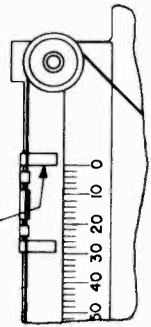

Fig. 6. Pointer-guide Clip Setting with Gang Condenser Closed
R.F. alignment can be performed only on the "BC" and "SW-1" bands with the chassis outside the cabinet. Any alignment attempted on "SW-2" band will not be satisfactory. The chassis should be mounted on the chassis and cylindrical Beam-a-Scope should be mounted on the chassis outside the cabinet as these components occupy in the cabinet. Since the glass dial scale is fastened to the cabinet it cannot be used for reference during alignment of the chassis and the cabinet. Use must be made, therefore, of the 0-180 deg. of the cabinet. To these readings the back of the dial reflector plate. To these readings the first completely close the gang condenser plates and then slide the pointer along the cord until the inside edge of the right-hand pointer guide clip is in line with the 0 deg. mark. (See Fig. 6.) By using this edge of the clip as the degree scale.